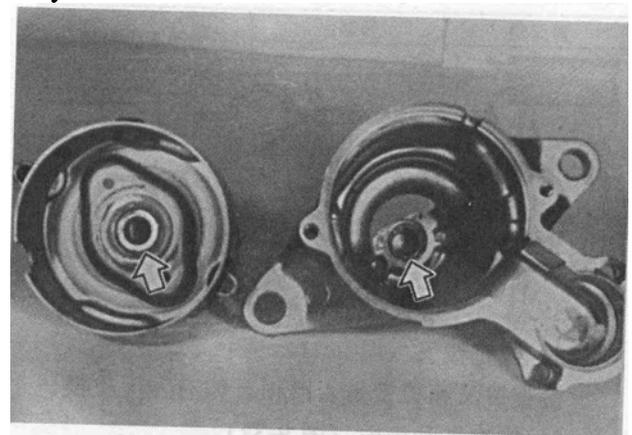

Fig. 9-31
**7) INSPECT ARMATURE SHAFT BUSHING(Fig.9-31)**